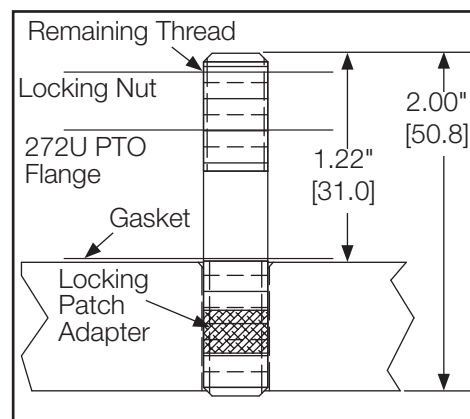

Figure 4
- b. Install the studs until the shoulder of the stud is flush with the adapter mounting surface. **DO NOT** install studs with shank below the adapter surface. Install studs with hand tools. **DO NOT** use power tools to install studs (**Fig. 4**).